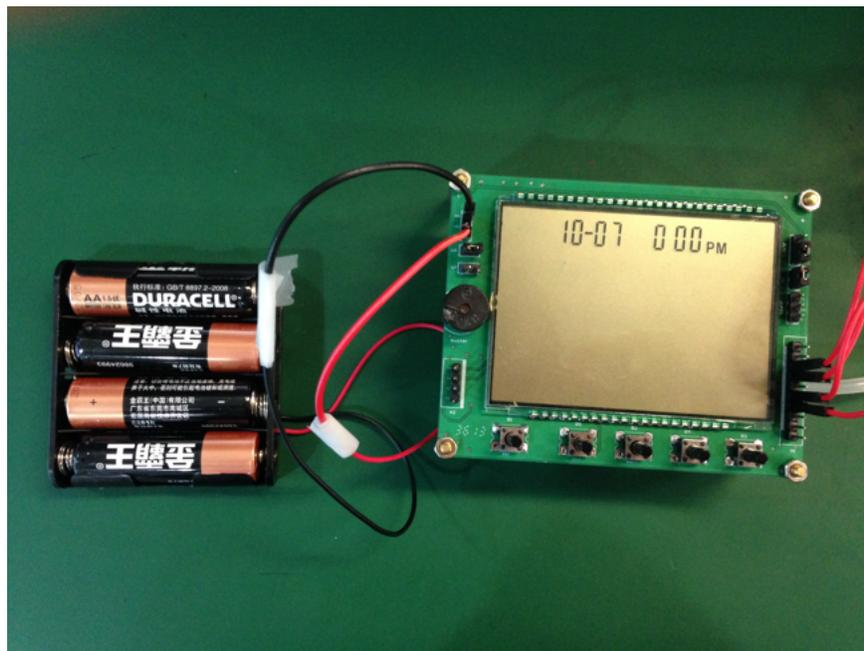

Figure 8. Connect to the Board
6. Connect the negative end of the battery to the GND pin of P1 (the date and time should appear on the LCD after it powers up, see Figure 8).